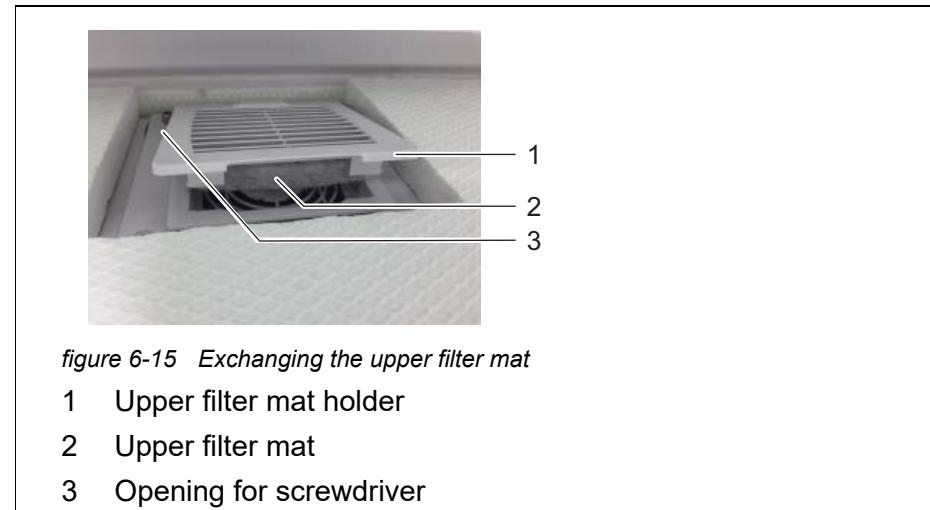

figure 6-15 Exchanging the upper filter mat
- 3 Open the upper filter mat holder with the aid of a screwdriver by levering it off and exchange the upper filter mat (see fig. 6-15,  144).